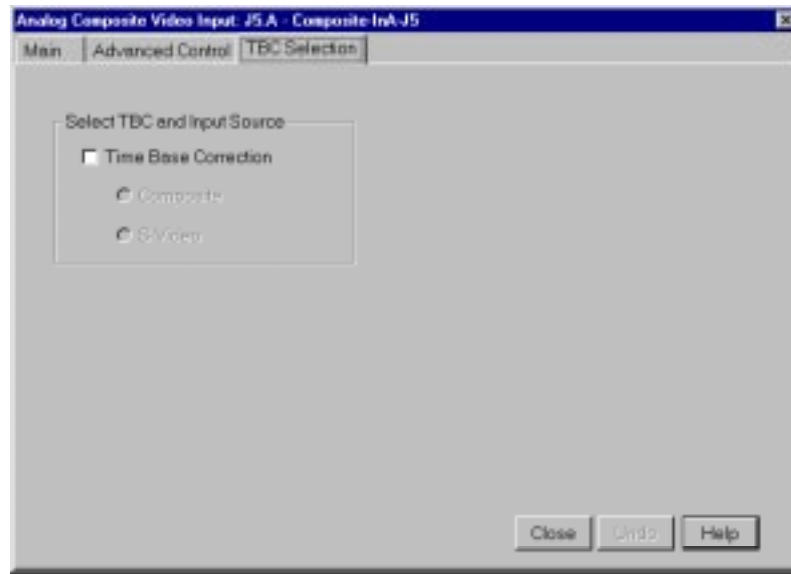

Figure 17. Analog Composite Video Input dialog box, Time Base Correction tab
1. Click the **TBC Selection** tab (see Figure 17).